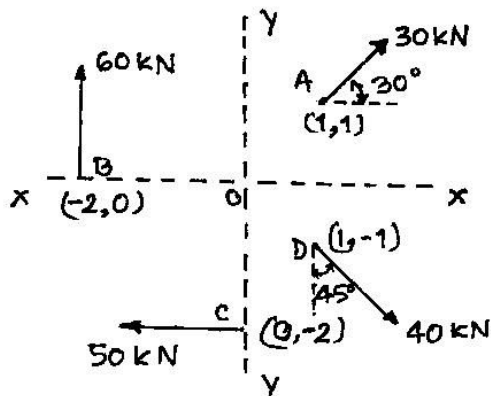

FIG 3. Q 2 (a)
- Q.2** (a) Find magnitude, direction and location of resultant of force system with respect to point 'O' shown in **fig. 3.** **07**